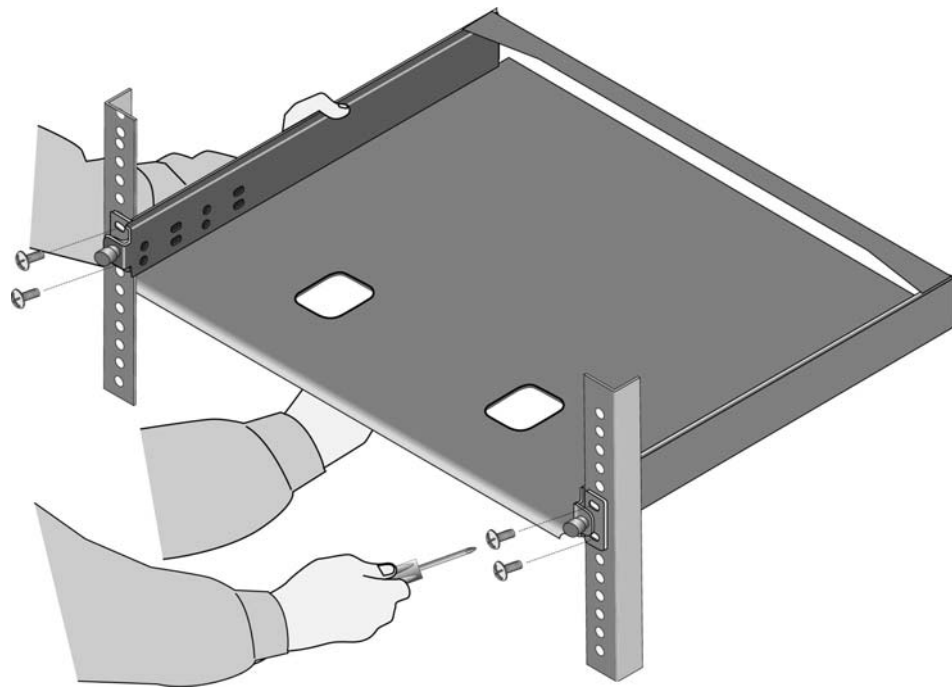

Figure 30. Installing the AT-RKMT-J15 Bracket in the Equipment Rack
1. Have another person hold the AT-RKMT-J15 Bracket at the desired location in the equipment rack while you secure it using four standard equipment rack screws (not provided). Refer to Figure 30.